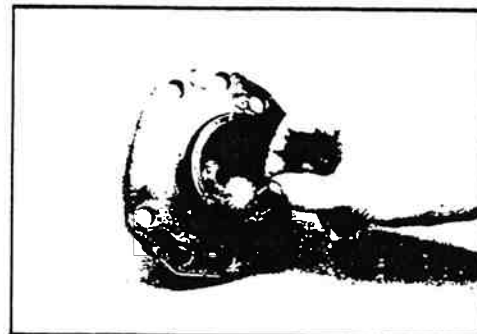

Figure 11-88. Installing Rollers.
38. Assemble 41 or 42 rollers into the side cover bearing race. Grease must retain rollers (figure 11-88).
39. Assemble the steel backup washer (43), the new Teflon backup washer (44), and the new two-piece side cover seal (45)